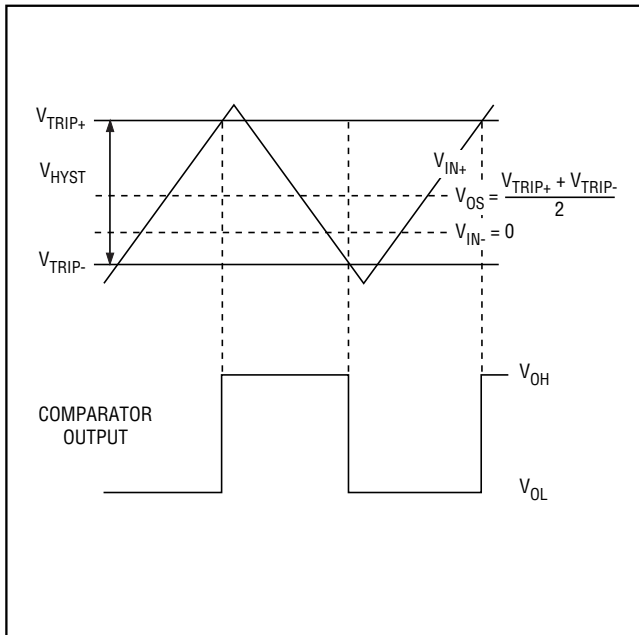

Figure 1. Input and Output Waveform, Noninverting Input Varied
- Note 2:** The input-referred trip points are the extremities of the differential input voltage required to make the comparator output change state. The difference between the upper and lower trip points is equal to the width of the input-referred hysteresis zone (see Figure 1).
- Note 3:** VOS is defined as the center of the input-referred hysteresis zone (see Figure 1).
The hysteresis in a comparator creates two trip points: one for the rising input voltage and one for the falling input voltage (Figure 1). The difference between the trip points is the hysteresis. When the comparator's input voltages are equal, the hysteresis effectively causes one comparator input voltage to move quickly past the other, thus taking the input out of the region where
Figure 1 illustrates the case where IN- is fixed and IN+ is varied. If the inputs were reversed, the figure would look the same, except the output would be inverted.